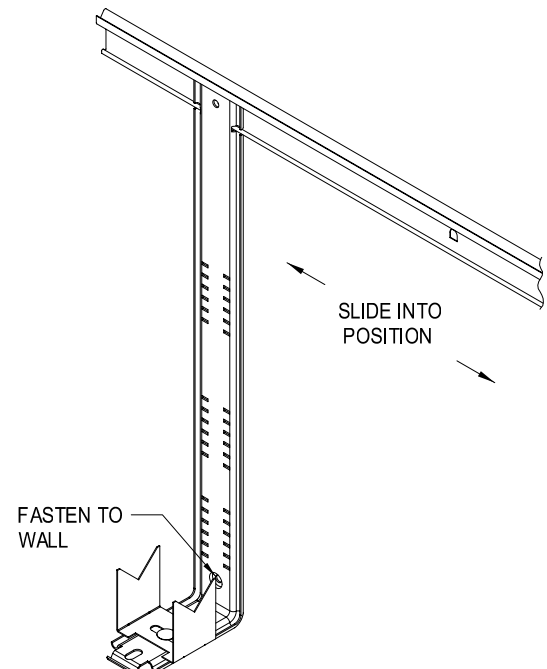

FIGURE W-4
- (4) Slide the snap expansion bracket into place and fasten the bottom of the bracket. (The snap expansion brackets should be installed approximately 36" apart.) The snap expansion bracket is installed with a fastener using the recessed hole near the bottom of the bracket. (FIGURE W-4)